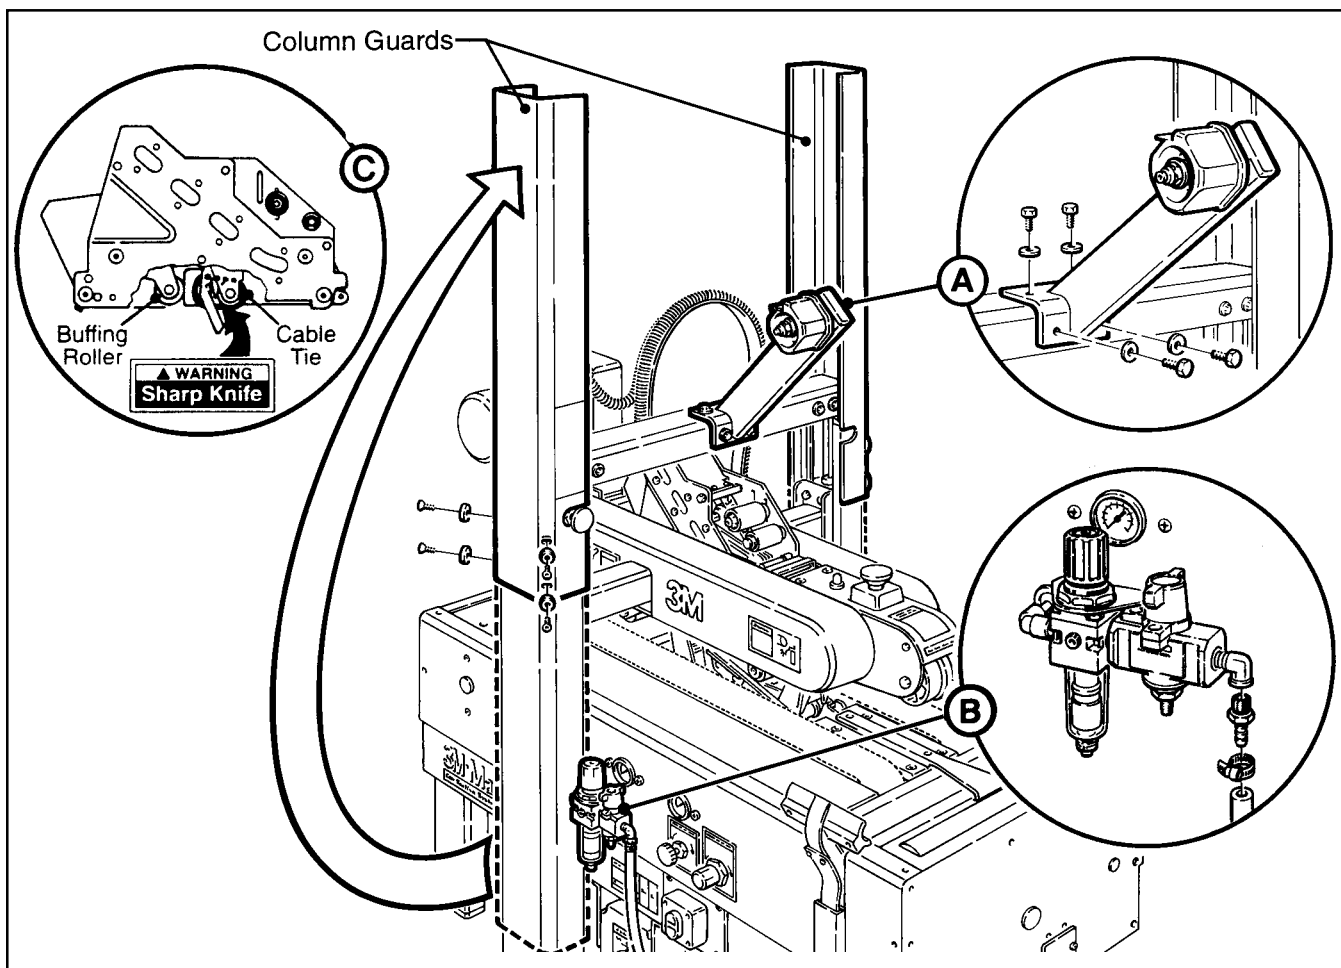

Figure 2-1 – 700r Frame Set-Up
4. The column guards, shown in Figure 2-1 have been installed upside down for shipping. They must be repositioned for safe operation of the machine. Remove and retain the screws and washers holding the guards on the columns. Rotate the guards 180° and install back on the columns as shown. Replace existing screws and washers to secure the guards in place.